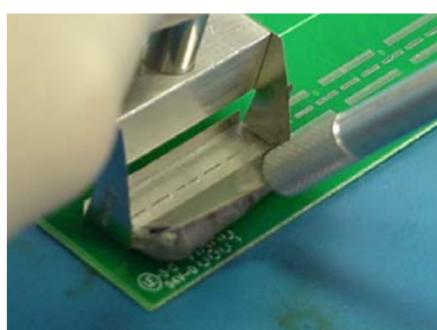

Figure 3
- Using the mini stencil, print a new pattern of solder paste. (See Figure 3).